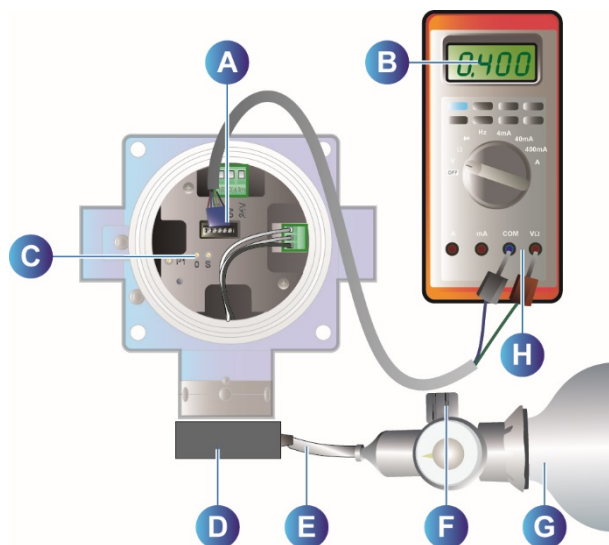

Figure 14: Zeroing and Sensitivity adjustment (OLCT 100)
2. Insert the blue and green plugs on the measurement lead into the + and - multimeter sockets, respectively (Figure 14, "H")
2. Insert the blue and green plugs on the measurement lead into the + and - multimeter sockets, respectively (Figure 14: Zeroing and Sensitivity adjustment (OLCT 100), "H").